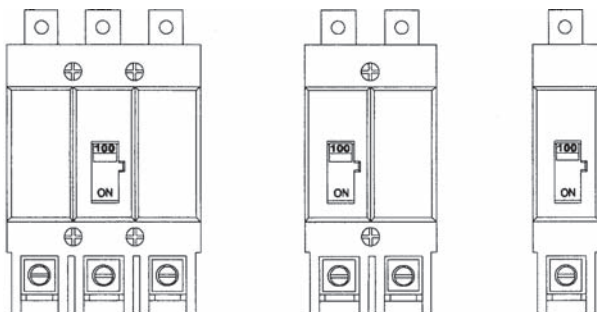

Fig. 1-1 GHB 1,2 and 3 Pole Circuit Breakers and GDB 2 and 3 Pole Circuit Breakers.
GHB circuit breakers (Fig. 1-1) (hereafter referred to as circuit breaker) are thermal-magnetic 1, 2 and 3 pole devices available in ratings from 15A to 100A continuous current. The GDB circuit breakers (fig. 1-1) (hereafter referred to as circuit breaker) are thermal-magnetic 2 and 3 pole devices available in ratings only from 15A to 50A continuous current for the 2 pole and from 15A-100A continuous current for the 3 pole. These circuit breakers are listed in accordance with Underwriters Laboratories, Inc. Standard UL 489 (Procedure E7819), Volume B), Canadian Standards Association (LR43556), and satisfy the (PI) requirements of the International Electrotechnical Commission Standard No. IEC 157-1.